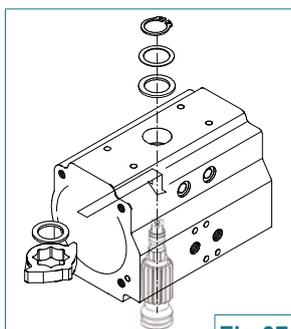

Fig.07
- Insert partially the pinion (23) into the body (26), install OCTI-cam (22) in the correct position as shown in Fig.07 related to the bottom and top of the pinion, and rotate the actuator when energised and install internal thrust bearing (21).
- Insert completely the pinion (23) into the body (06).
- Fit external thrust bearing (05), thrust washer (04) and then external circlip (03) using snap ring pliers.